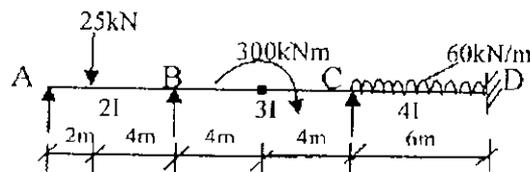

Fig. 14 (a)
14. (a) Analyse the continuous beam shown in fig. 14 (a) by slope deflection method. Support B settles by 8 mm and C settles by 12 mm.  $I = 60000 \text{ cm}^4 = 6 \times 10^{-4} \text{ m}^4$ ,  $E = 210 \times 10^6 \text{ kN/m}^2$ . Draw the SFD and BMD.